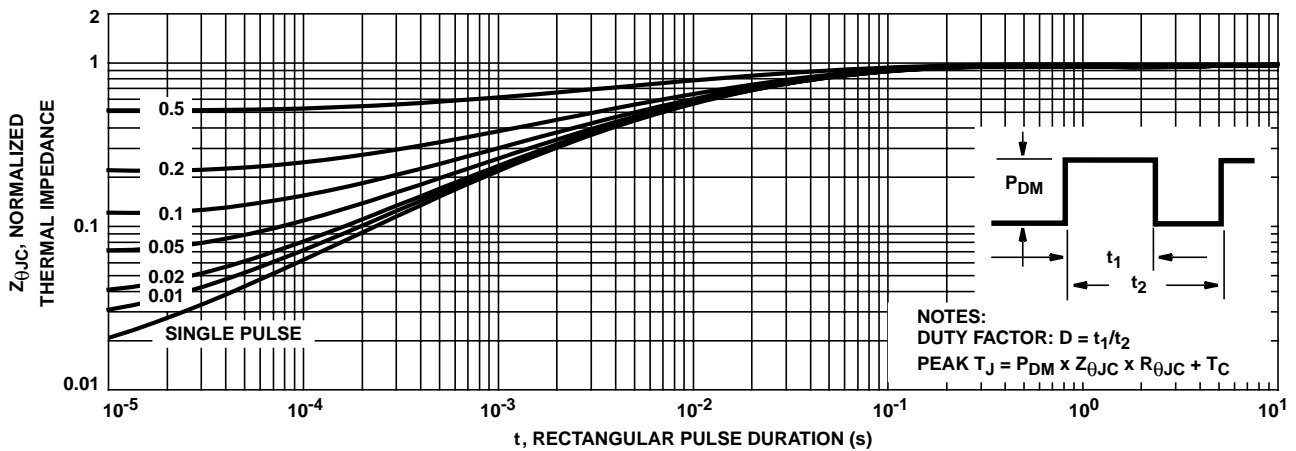

FIGURE 3. NORMALIZED MAXIMUM TRANSIENT THERMAL IMPEDANCE
- Repetitive rating: pulse width limited by Max junction temperature. See Transient Thermal Impedance curve (Figure 3).